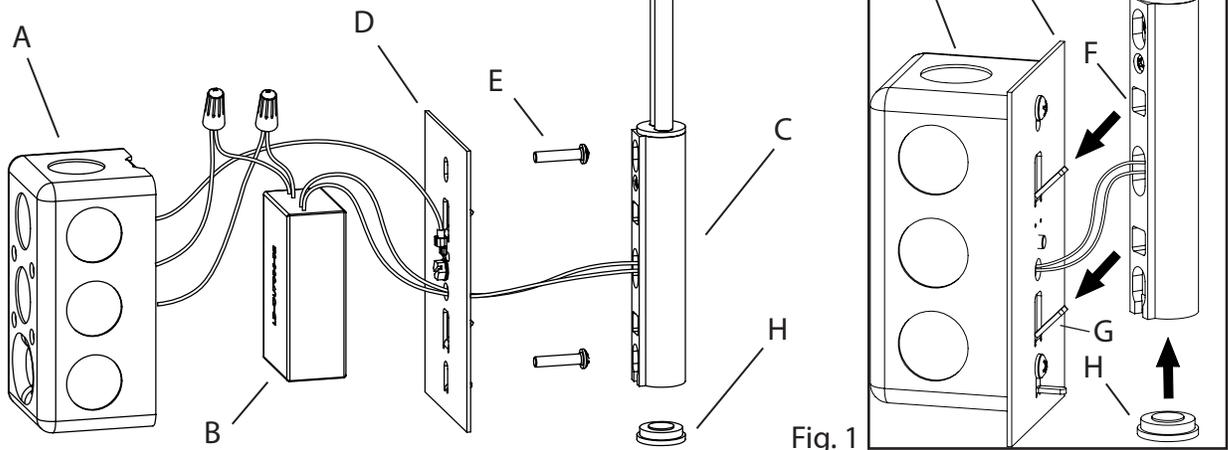

Fig. 1
1. Shut off power to the outlet box (A).
- a. Connect the LED driver's (B) live wire (black) to the outlet box live wire.
- c. Connect the fixture's (C) ground wire (green or uncoated) to the outlet box ground wire. If no ground is present in outlet box, connect fixture's ground wire to the mounting plate (D) using the green screw (included).
3. Attach the mounting plate (D) to the outlet box (A), secure with outlet box screws (E).
4. Install fixture (C) on the mounting plate (D) by aligning slots (F) with mounting plate hooks (G) as shown in (Fig 1). Screw the bottom cap (H) at the bottom to secure the fixture.
5. Restore power to the outlet box (A).